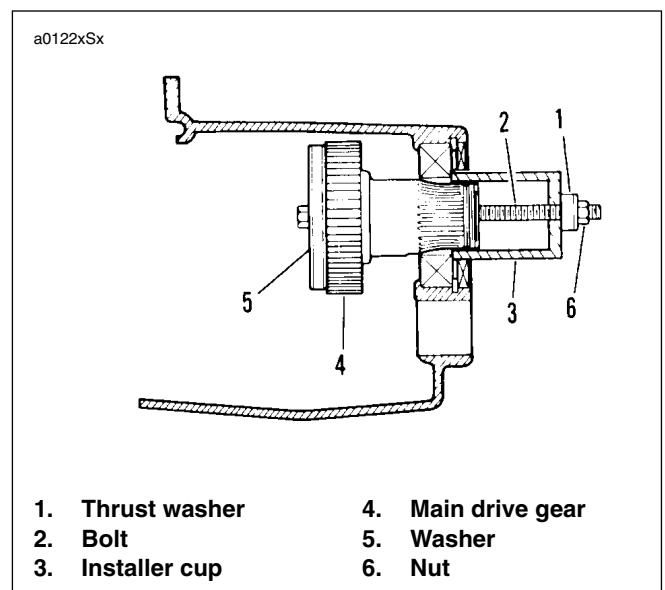

Figure 6-75. Main Drive Gear Installation
3. See Figure 6-75. Use MAIN DRIVE GEAR REMOVER AND INSTALLER (Part No. HD-35316-A) for assembly.
- a. Take bolt (2) and place washer (5) followed by main drive gear (4) over end of bolt.
- c. Insert threaded end of bolt (2) through installer cup (3) and thrust washer (1).
- d. Thread nut (6) onto end of bolt (2). Tighten nut (6) until shoulder on gear (4) bottoms against inner race of ball bearing.